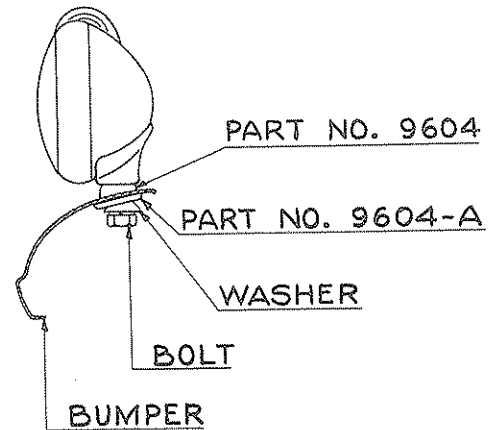

FIG. 2
1. Place part 9604 over slot in bumper (Fig. 2); place part 9604A under this slot; place cup washer below part 9604A.
2. Place lock washer over bolt, insert bolt through above parts and screw into lamp shell bracket. (Fig. 2).